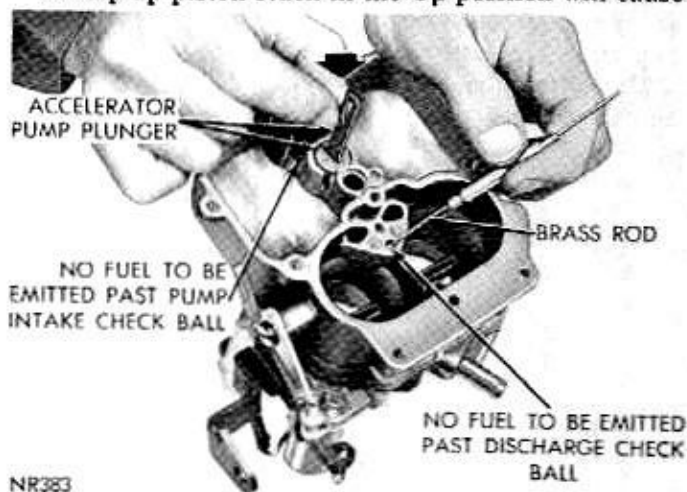

Fig. 8—Testing Accelerator Pump Intake and Discharge Check Balls
(1) Invert main body and place a new gasket in position and place throttle body on main body and align. Install screws and tighten securely.
(2) Install accelerator pump discharge check ball in discharge passage and check accelerator pump system; fuel inlet and discharge check balls as follows:
(3) Pour clean gasoline into carburetor bowl, approximately 1/2 inch deep. Remove pump plunger from jar of gasoline, flex leather several times, then slide down into pump cylinder. Raise plunger and press lightly on plunger shaft to expel all air from pump passage.
(4) Using a small clean brass rod, hold discharge check ball down firmly on its seat. Again raise plunger and press downward. No fuel should be emitted from either intake or discharge passage. (Fig. 8).